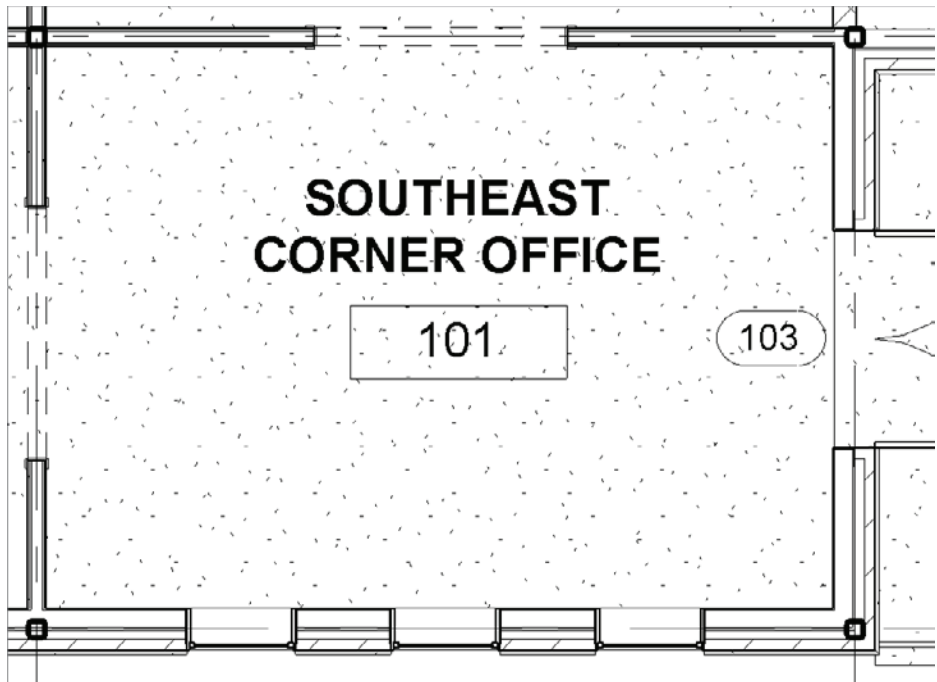

FIGURE 15.3 Changing the room name and number to SOUTHEAST CORNER OFFICE and 101, respectively
5. Change the number to **101** (see Figure 15.3).